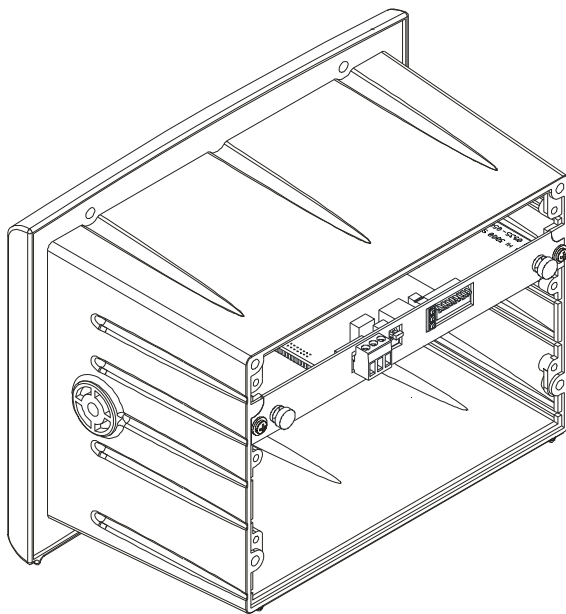

FIG. 6: REMOTE I/O OPTION CARD INSTALLED
- Step 4. Use a phillips head screw driver and install the two (2) screws that fasten the RIO card panel to the HI 3000 Instrument Chassis. (See Fig. 6)